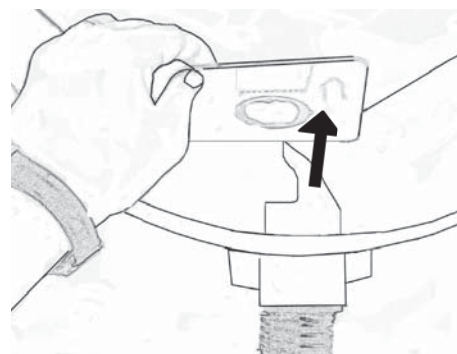

Fig. 22
5. Remove the dust bag by taking hold of the cardboard stiffener and carefully pulling out the card and bag from the container, Fig. 22. Fold down the perforated part of the cardboard towards the opening of the bag in order to prevent the bag contents to leak out.